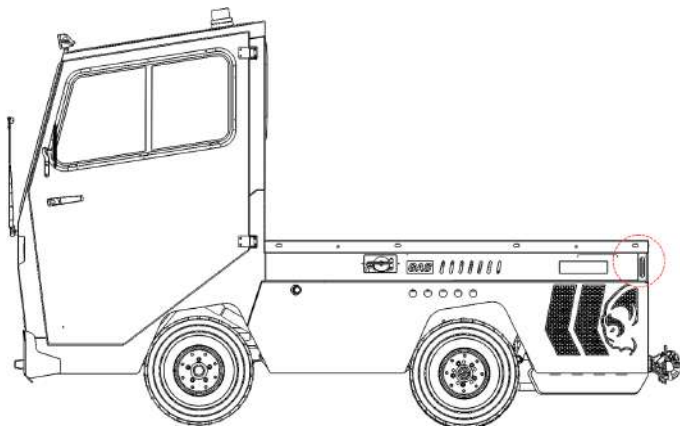

Figure 38. Side Panels.
- Side panels corners (both sides). There is a possibility of cracks occurring in these corners as they undergo significant stress (see Figure 38).